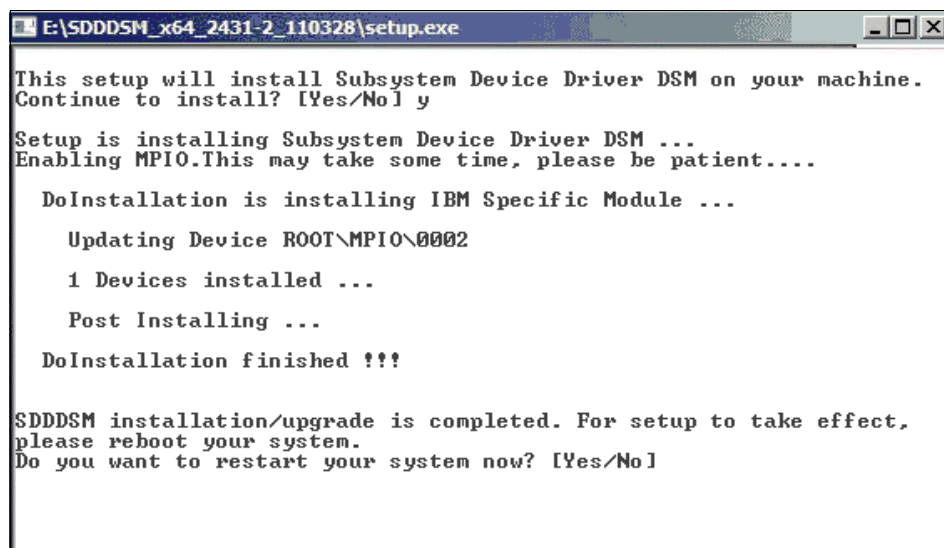

Figure 5-80 SDDDSM complete
4. After the setup completes, you are asked to restart the system. Confirm this by typing **yes** and press Enter, as shown in Figure 5-80.